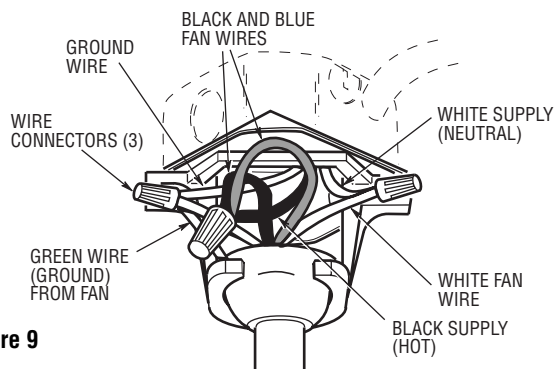

Figure 9
2. Connect the fan motor white wire to the supply white (neutral) wire using a wire connector (supplied) (Figure 9). Connect the fan motor black wire and blue wire to the supply black (hot) wire using a wire connector (supplied) (Figure 9). Your fan is now wired to be turned on and off from the fan switch. After connections have been made, turn leads upward and carefully push leads into the outlet box, with the white and green leads on one side of the outlet box and the black and blue leads on the other side of the outlet box.